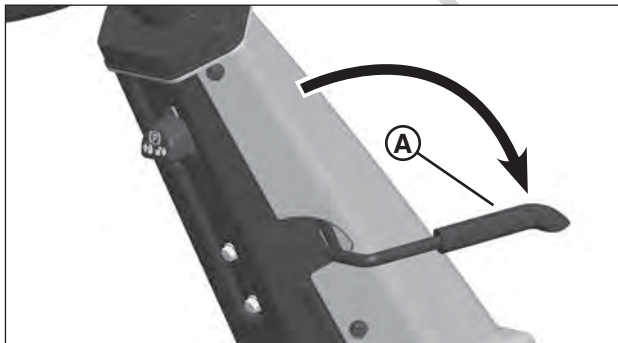

Figure 4: Blade control
3. Make sure the Blade Control (A, Figure 4) is in the OFF position.